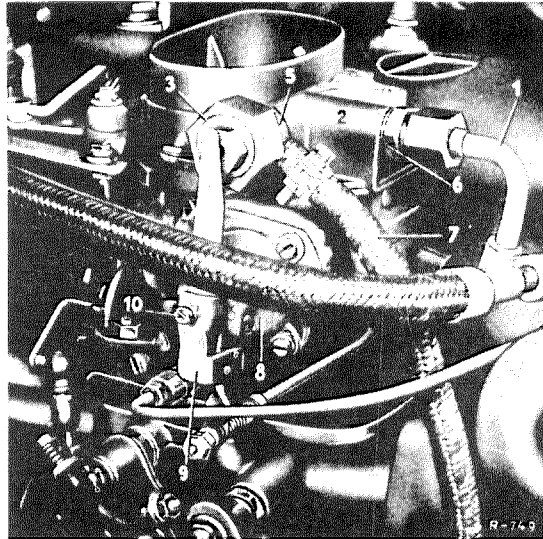

Fig. 07-0/23
With the carburetor linkage in the idle position and the throttle valves slightly open, the valve pin of the return valve, which is fitted with a sealing cone, is pressed outward by the pressure spring so that the bore remains open for the fuel flow. When the throttle valves are opened further, the pump arm (9) by overcoming the elastic force, presses the valve pin far enough in to close the bore to the passage of fuel and thus interrupts the scavenging process (see Fig. 07-0/23).